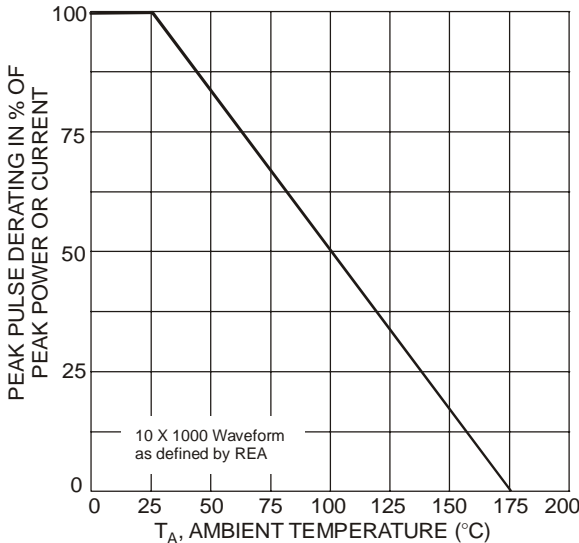
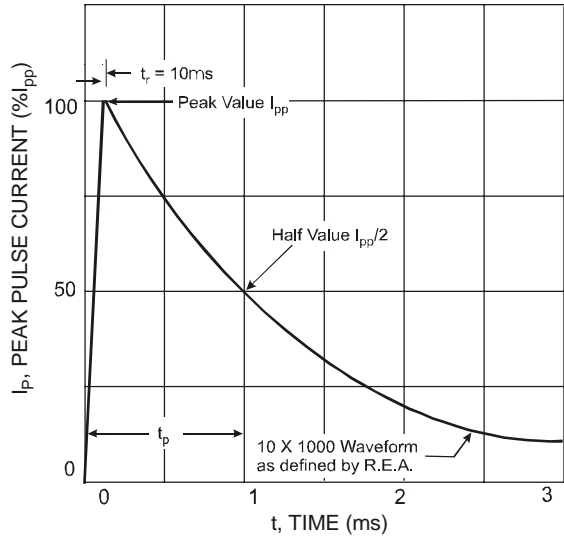

Fig. 1, Pulse Derating Curve
Fig. 4, Pulse Waveform
1. Non-repetitive current pulse, per Fig. 4 and derated above T_A = 25°C per Fig. 1.